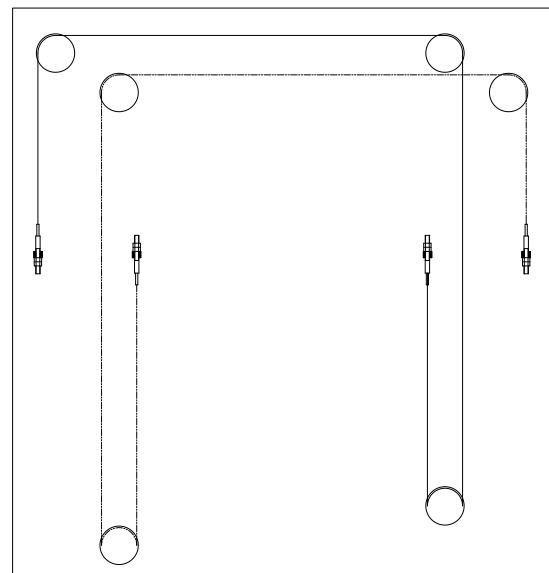

Fig. 34
- ◆ Install the synchronization cable according to **Fig. 34**.